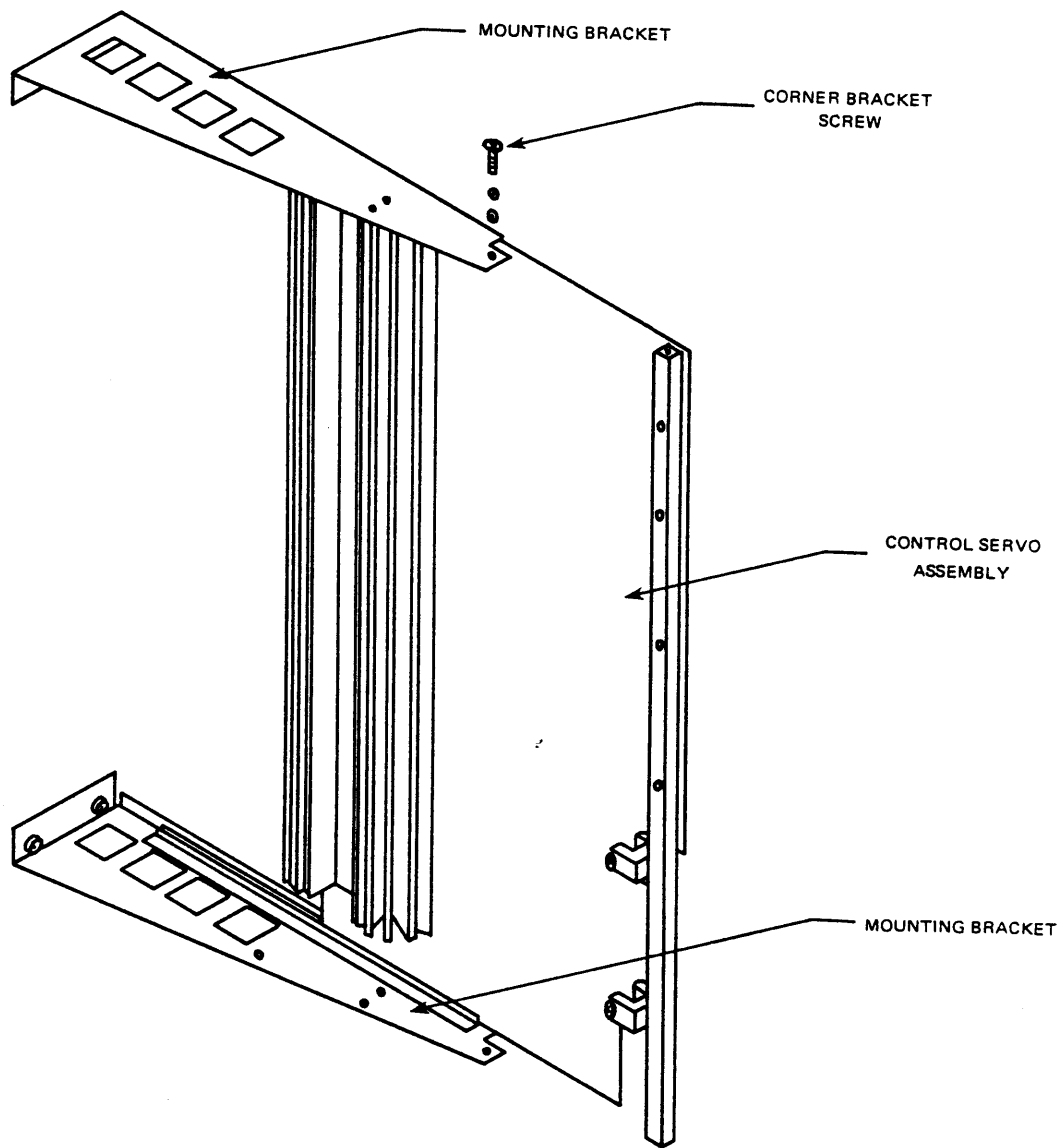

Figure 5-11. Control/Servo Board Removal
- b. Remove screws from corners of mounting bracket as shown in Figure 5-11.